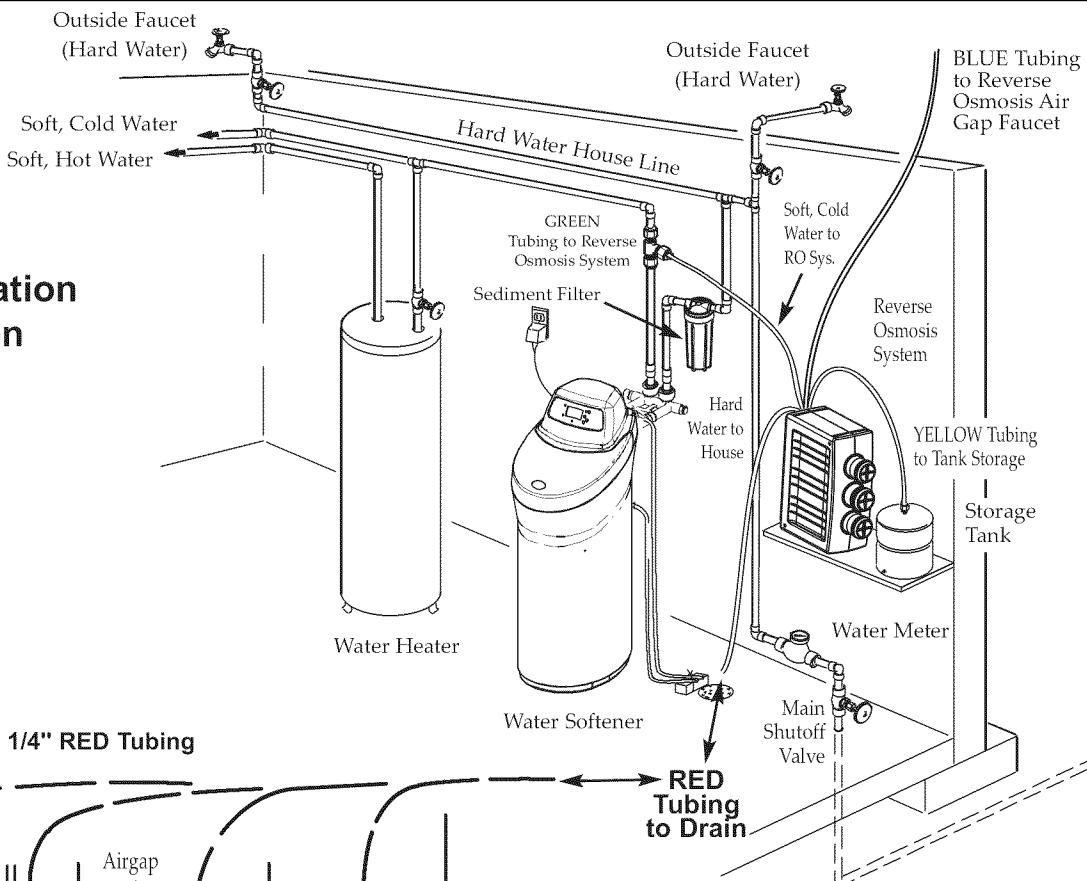

Figure 9
This is usually used in remote location type installations. The drain tube from the Reverse Osmosis Filter runs directly to an open drain. See Figures 9 & 10.
- Locate the 1/4" red tubing on the Reverse Osmosis filter assembly. See Figure 9.